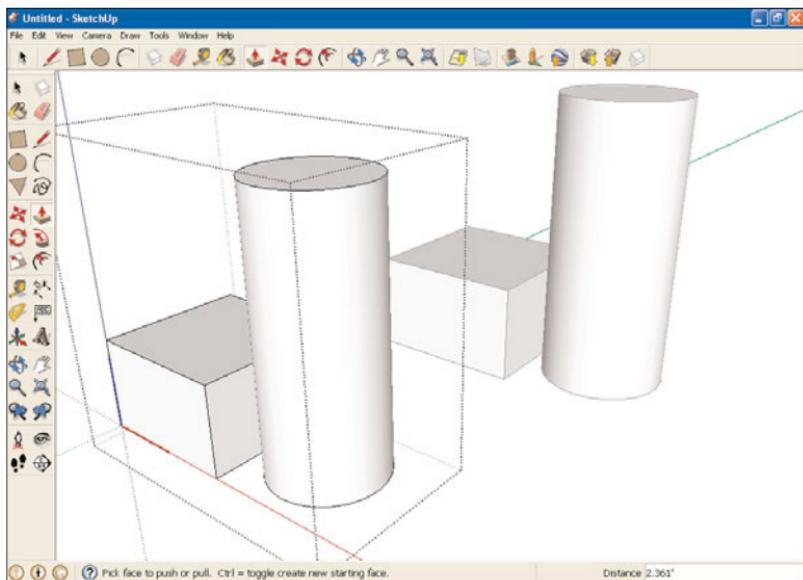

FIGURE 6.11 Editing a component, which also edits copies of the component.
- 12.** Pull the cylinder up to a greater height. As you pull the cylinder in one component, the cylinder in the other component changes to match, as shown in Figure 6.11.